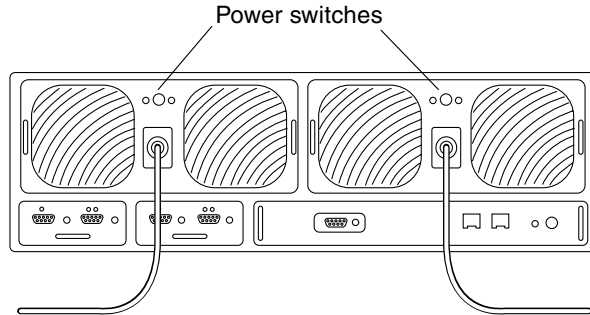

FIGURE 5-2 Power Switch Locations
4. Press the power switch on the power and cooling units on both arrays to remove AC power (FIGURE 5-2).